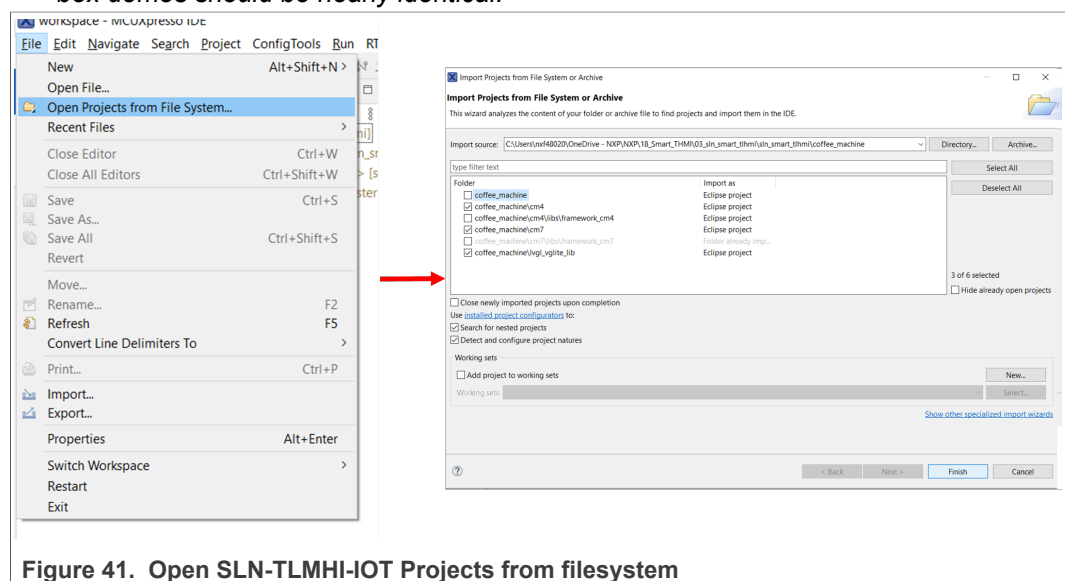

Figure 41. Open SLN-TLMHI-IOT Projects from filesystem
2. From the screen displayed, navigate to the location where you unzipped the `sln_tlhmi_iot` source code. Now, import the files listed in Figure 41.